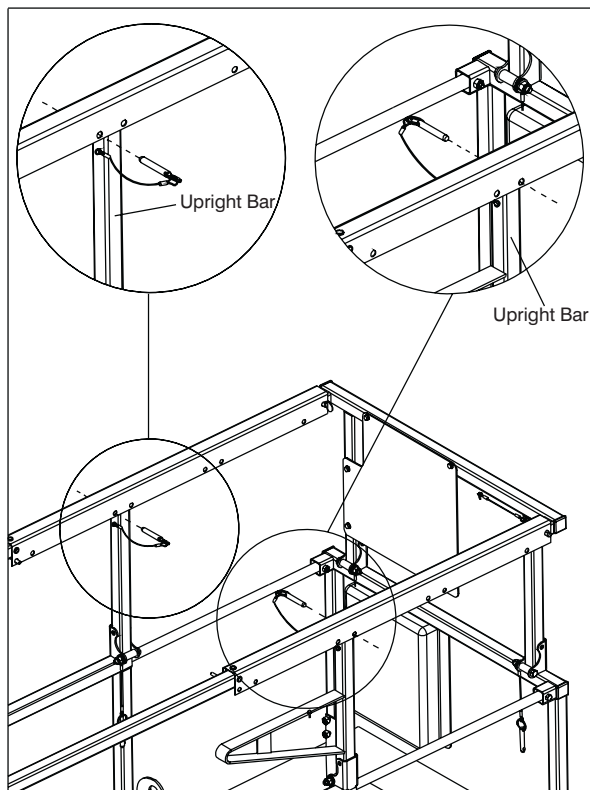

Figure 2-16. Variable Position Manual Extension Platform
2. Upon extension or retraction, reinsert locking pins. Insert pin on one side of aerial platform in front of upright bar and the pin on the other side of aerial platform behind the upright bar to prevent accidental movement, in either direction, of manual extension platform during travel or transport. Refer to Figure 2-16 for a configuration example.